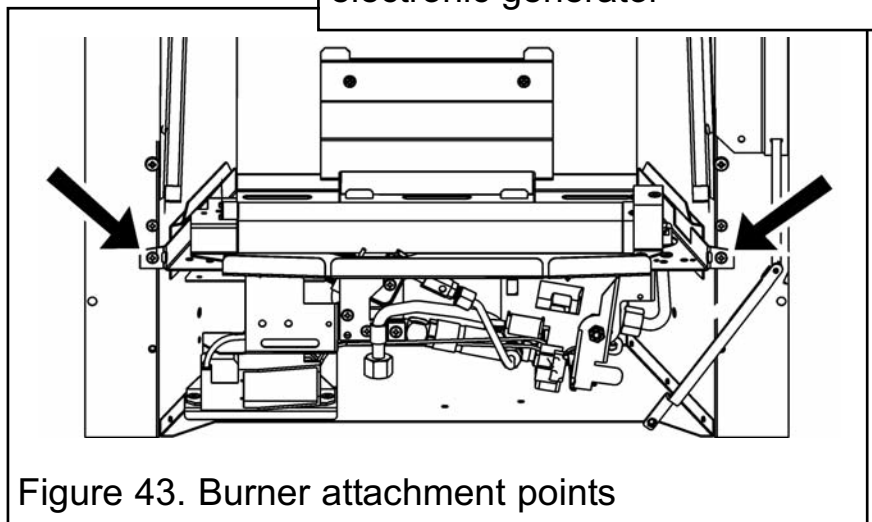

Figure 43. Burner attachment points
3. Detach the burner unit from the convection box by removing two screws (See figure 43).